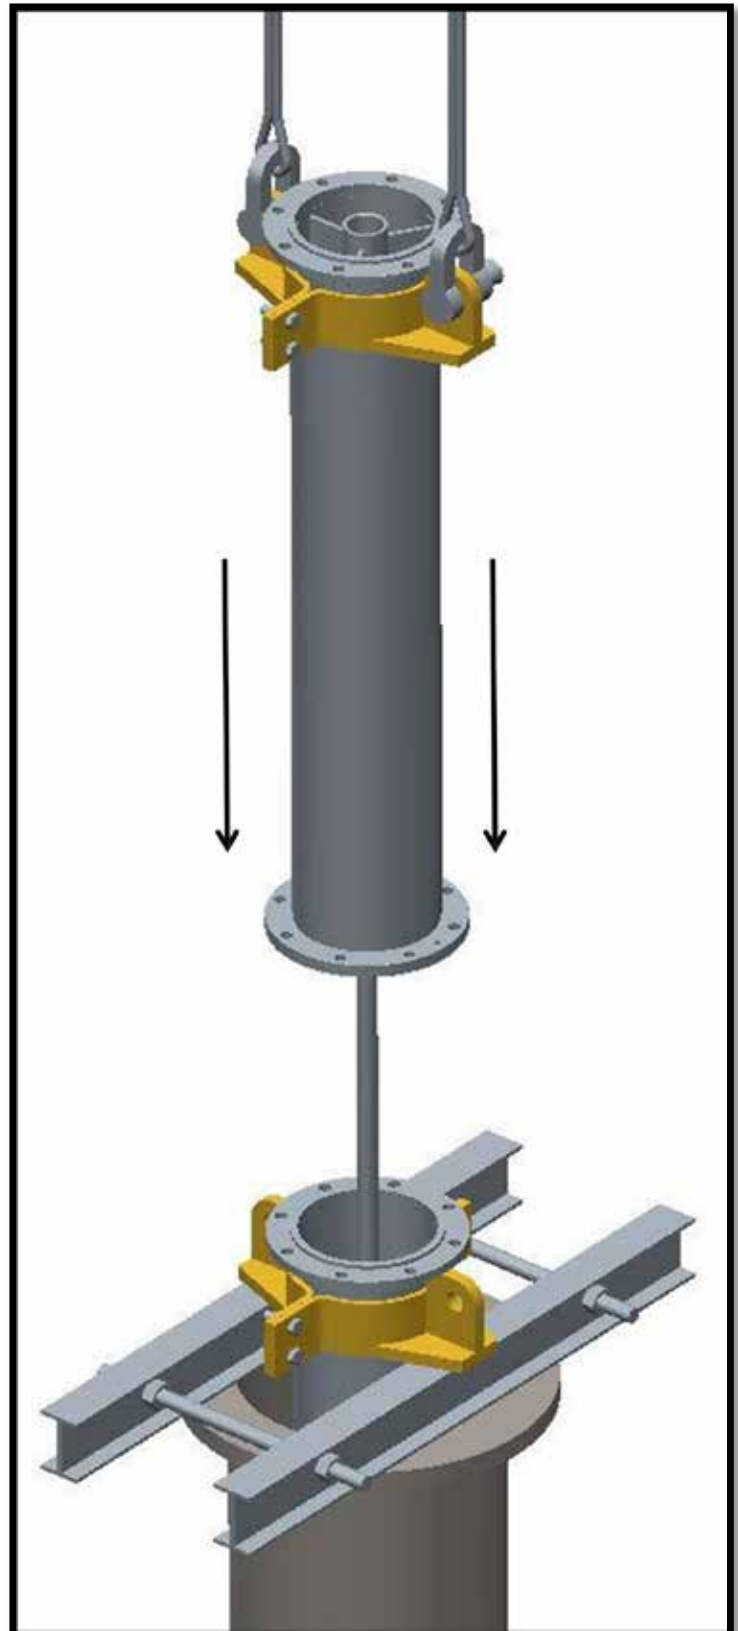

Figure 10: Columns assembly.
1. Prepare the next Column (5) by installing the Lifting Clamps (3) per Section 3-1.
2. Connect the Lifting Sling (1) and Shackles (2) to the second clamp per Section 3-1-1.
3. Lower column down over the Lineshaft (4) when applicable taking care to guide the shaft through the column bearing retainer. Refer to the ITT Goulds Pumps VIT IOM for more information.
4. Align the registers to allow the column flanges to fully engage and insure the column being installed is resting firmly on the column held in place by the I-beams and clamps. Refer to Figure 10 for more information.